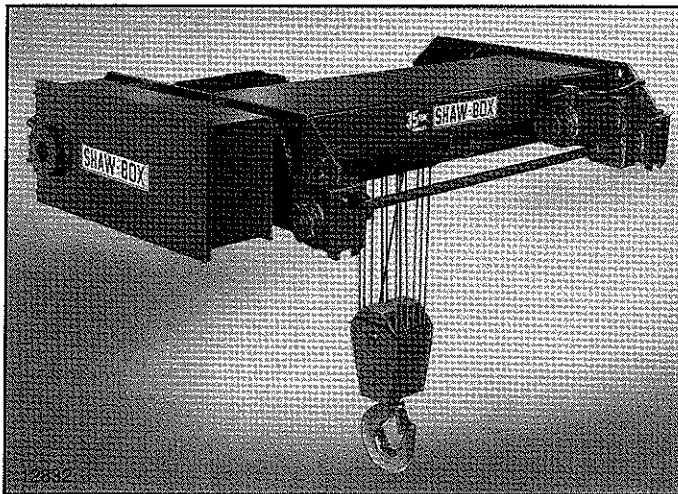

Figure 8-1. Hoist Machinery Arrangement.
The standard hoist drive has the hoist motor mounted on the inside of the trolley frame with the hoist speed reducer mounted on the outside of the trolley frame as shown in Figure 8-1.
a. **General.** Hoists are equipped with a holding brake which applies torque to the motor shaft sufficient to hold the load. The hoist uses a disc type brake mounted on the motor pinion shaft which extends through the gear case cover. It is seen to the left of the SHAW-BOX sign in Figure 8-1.